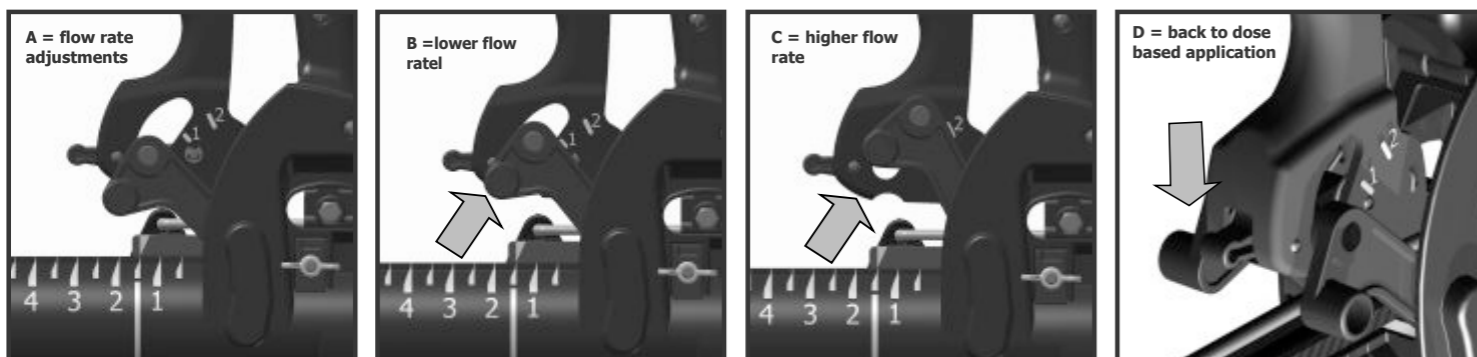

FIGURE 9 Form of adjustment for continuous or in-line applications.
**a)** First, repeat steps **a)**, **b)** and **c)** in item 6.3.1 (dose based application), positioning and locking the measurement scale on the existing marks (continuous line form) between position nº 1 and nº 2, as shown in **Figure 9 A** above;
**b)** Then, as shown by the arrows in **Figure 9 B**, pull the red articulation in the command upwards (holding them on both sides of the command) until mark number 1 is reached, a slight "click" will be heard indicating that the articulations are locked in position and ready to operate in adjustment position 1 – lower flow rate;
**c)** In order to operate in adjustment position 2 - higher flow rate, continue pooling the articulation upwards until a second "click" is heard, identifying that the articulations are locked in position 2 - higher flow rate, as shown in **Figure 9 C**;
**d)** Finally, in order to deactivate continuous application mode, push downwards the red button as shown by the arrow in **Figure 9 D**, unlocking the system and reactivating the dose based application mode (g/trigger actuation).